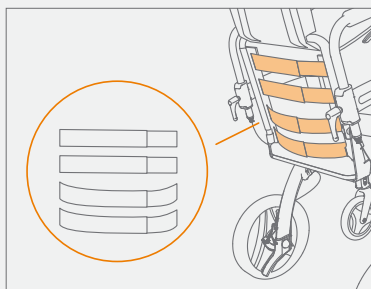

Figure 48: Lower two back straps loosened.
- In most cases, the lower straps will be adjusted looser than the upper two straps (**Figure 48**). Attach the Velcro so that the user's pelvis is properly upright, and the backrest supports the back.